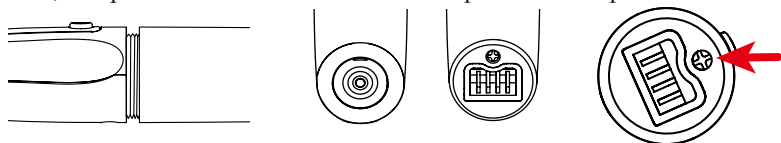

Figure 10 Replacement of battery
When replacing the battery, as shown in Figure 10, first rotate the battery barrel counterclockwise to remove the battery tube, then take the old battery out of the battery tube, replace it with a new one, and finally tighten the battery tube clockwise according to the corresponding thread.
**Warning:** When removing the battery, the screw under the battery barrel (pointed by the arrow in Figure 10) does not need to be unscrewed, just push the connector slightly inward to remove the battery. Improper replacement of lithium batteries may result in unacceptable risks, so replacement of lithium batteries requires trained personnel.